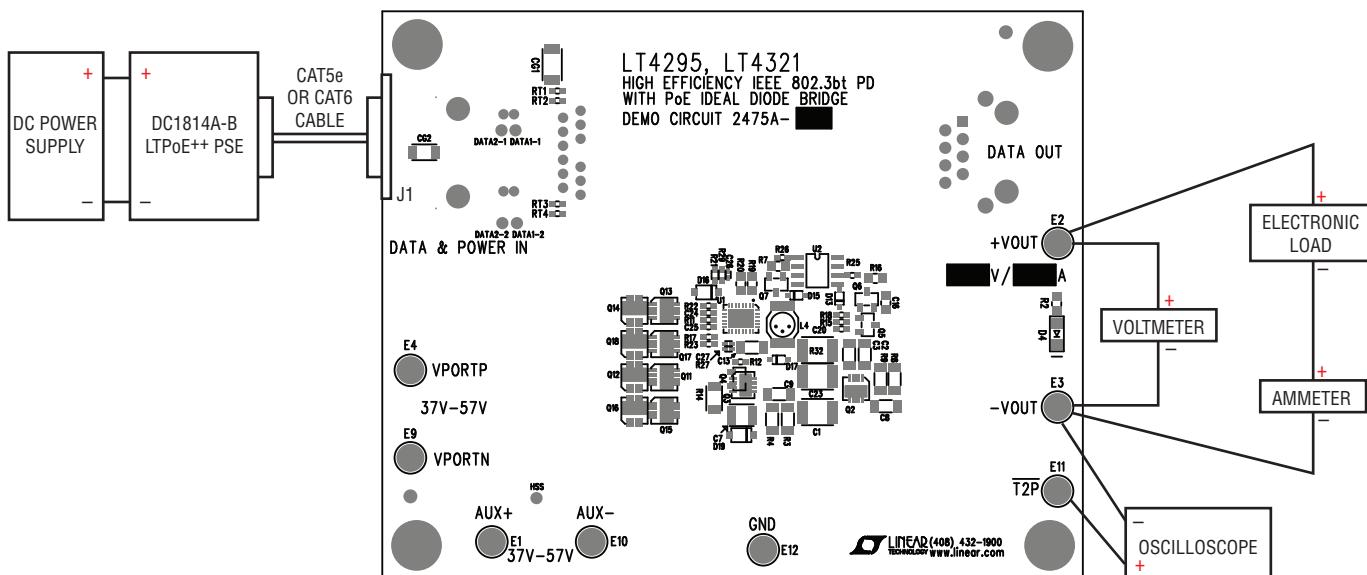

Figure 8. Setup Diagram for PoE Input
2. Place and connect test equipment (voltmeter, ammeter, oscilloscope, and electronic load) as shown in Figure 8.
8. Verify T2P response with an oscilloscope as shown in Figure 8. The T2P response to the type of PSE connected to the DC2475A-A is provided in Table 1.